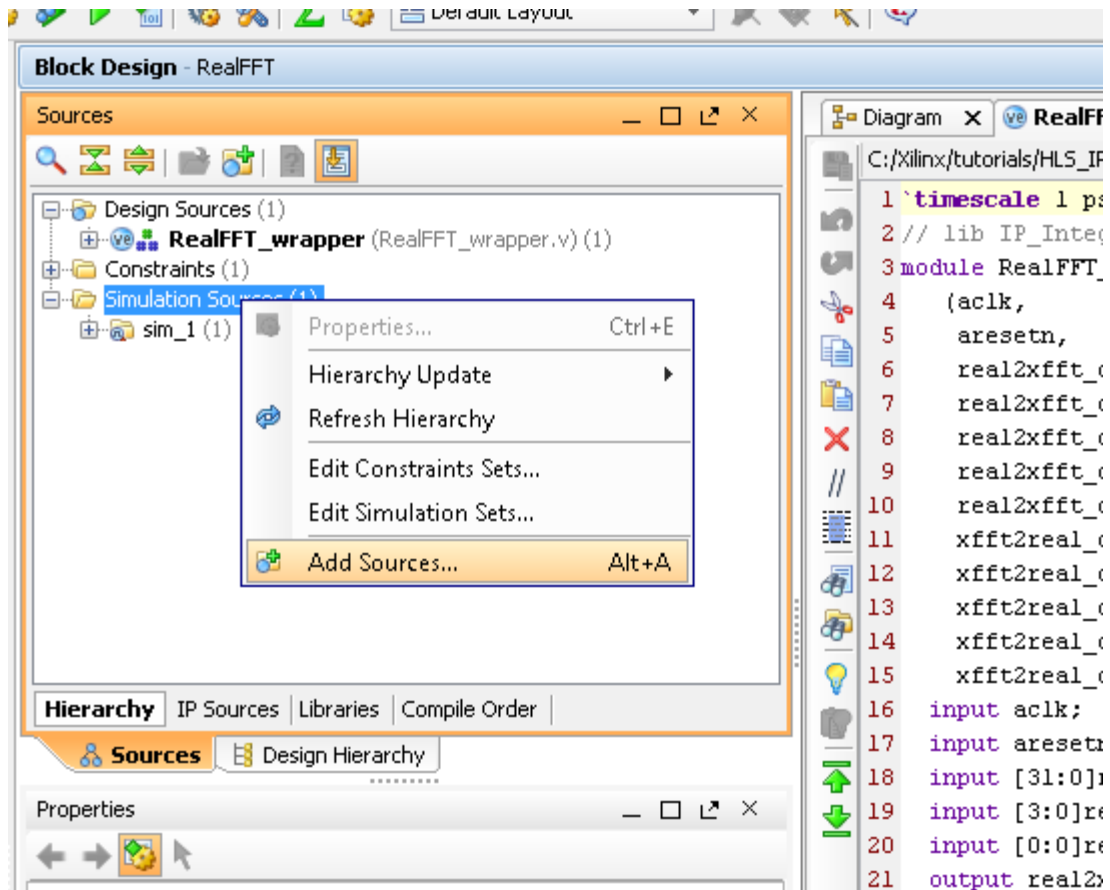

Figure 210: Adding Simulation Sources
1. Right-click **Simulation Sources** in Sources tab of Project Manager pane (Figure 210).